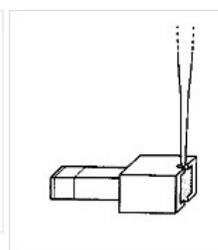

Figure 6
5. Pre-set a pipettor to 50-60µl, and insert the provided capillary pipette tip through the hole in the membrane and gently push the tip downward (See Figure 6). The capillary tip slides over the cutting edge (slope) of the punch. The tip pushes the wet membrane forward as it moves downward into the collection port.